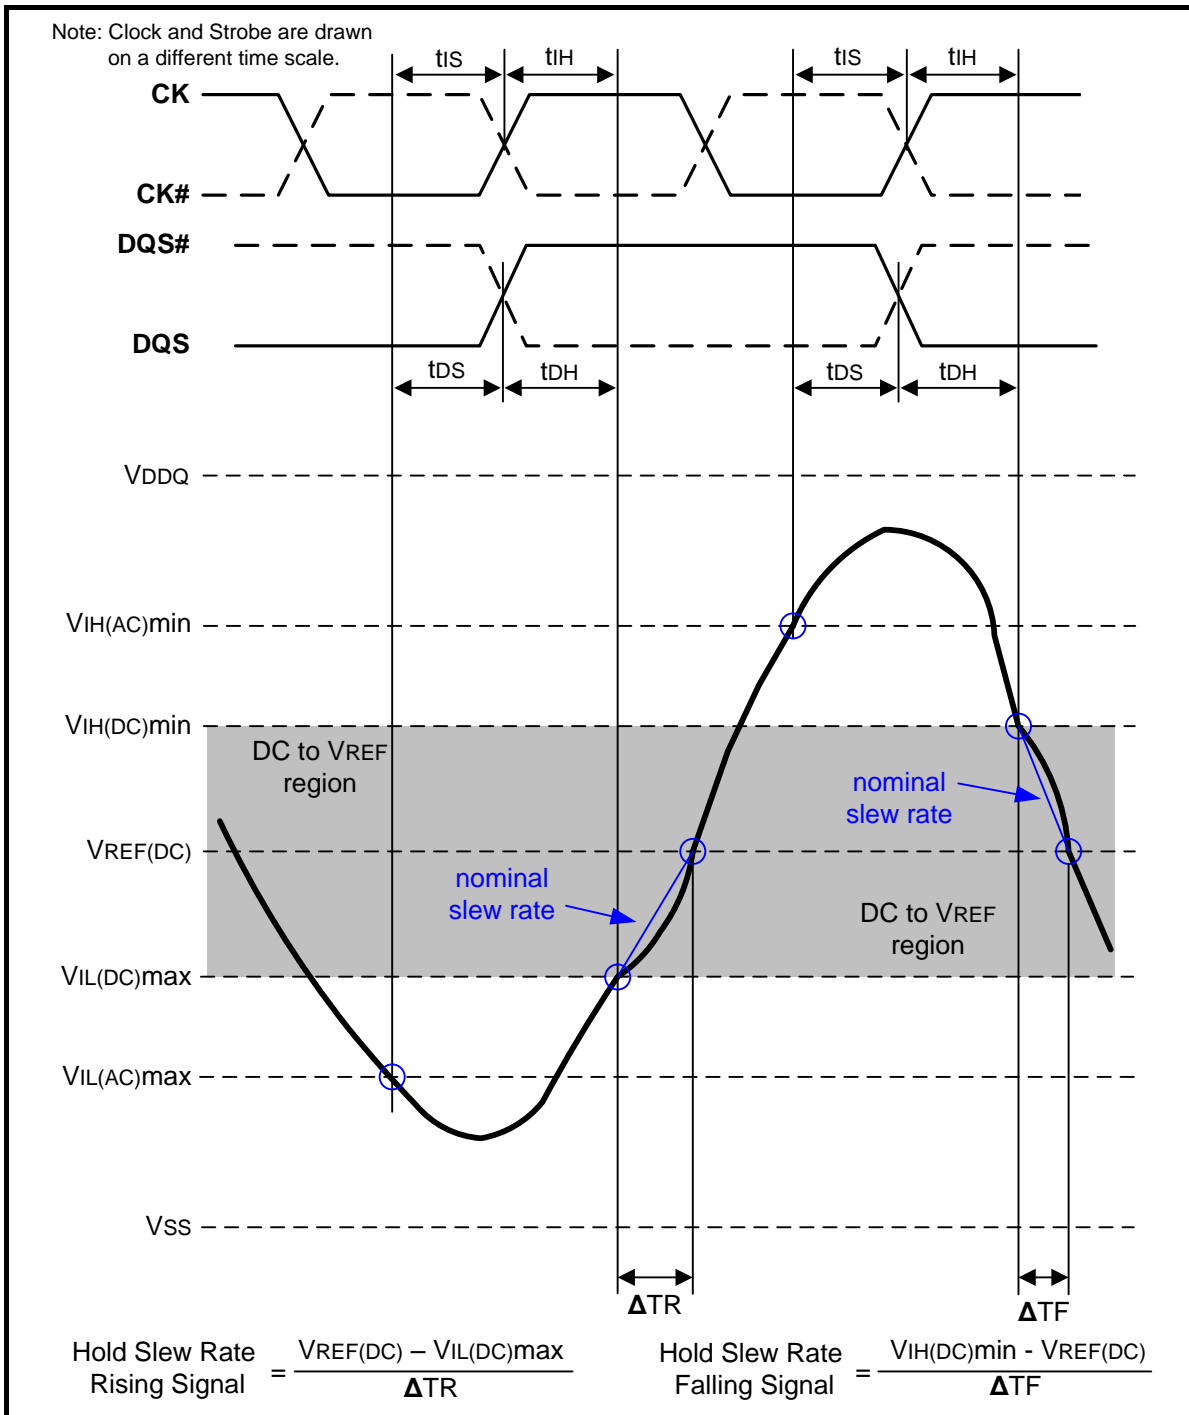
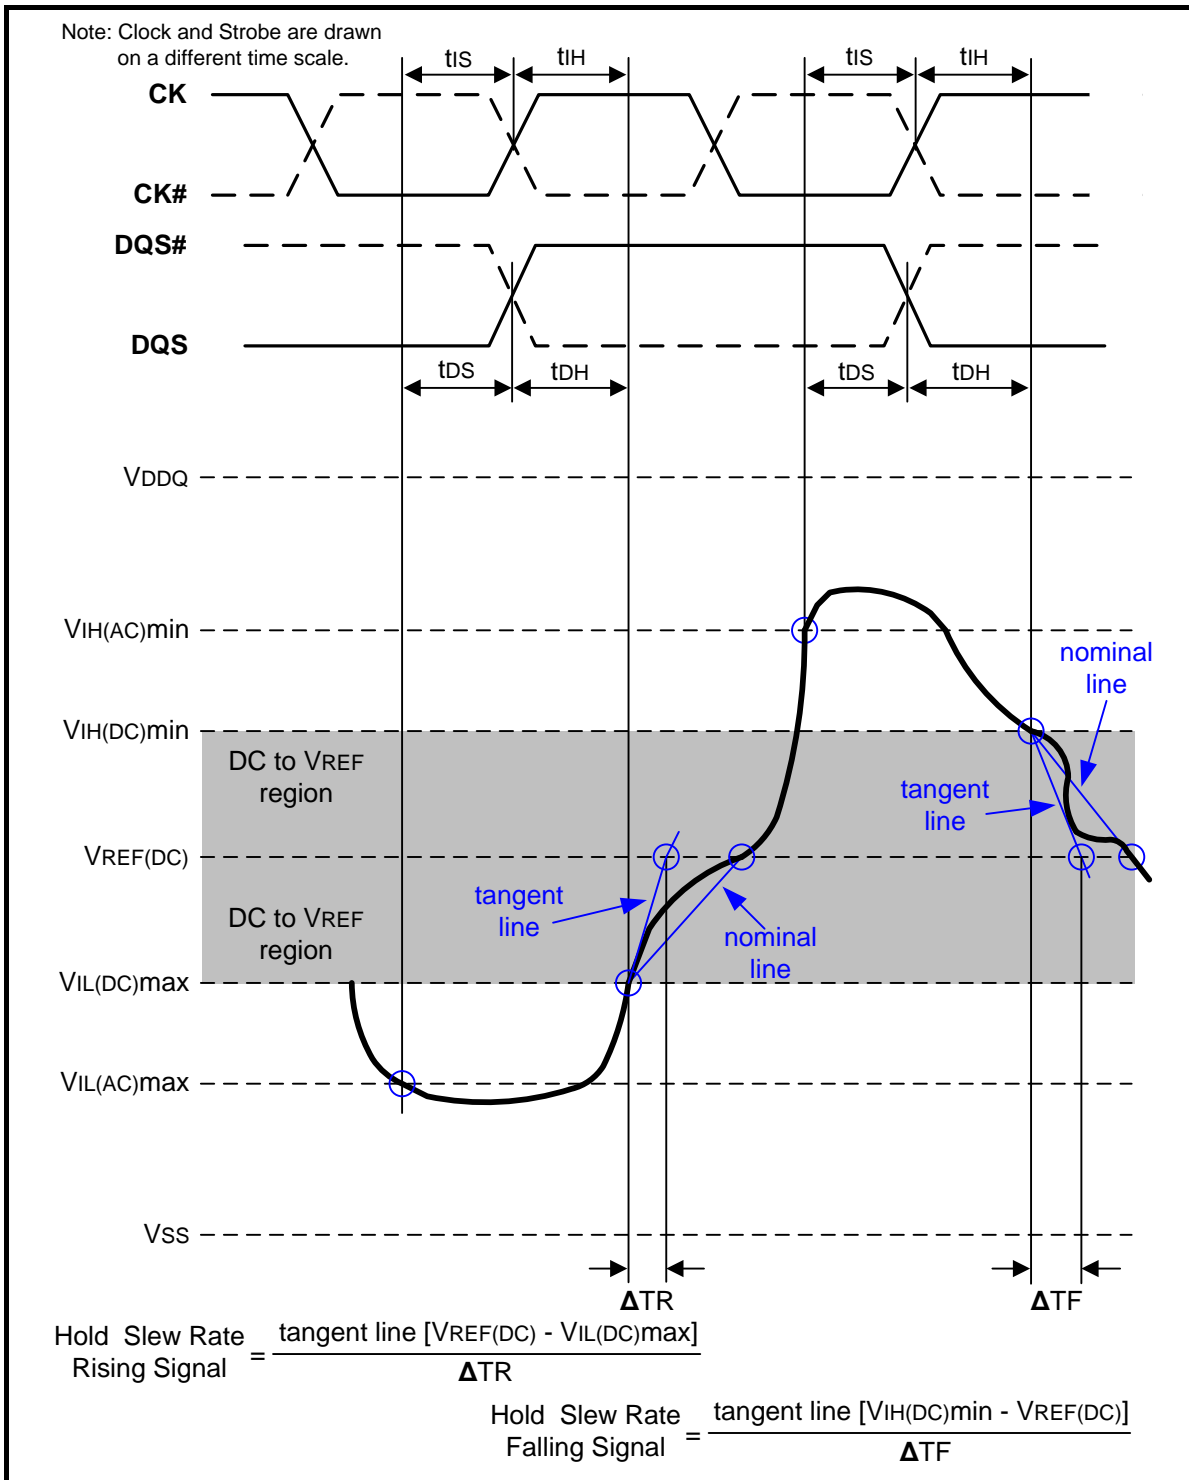

Figure 108 – Illustration of nominal slew rate for hold time tDH (for DQ with respect to strobe) and tIH (for ADD/CMD with respect to clock)
Figure 110 – Illustration of tangent line for for hold time tDH (for DQ with respect to strobe) and tIH (for ADD/CMD with respect to clock)
Hold (t_{IH}) nominal slew rate for a rising signal is defined as the slew rate between the last crossing of $V_{IL(DC)max}$ and the first crossing of $V_{REF(DC)}$. Hold (t_{IH}) nominal slew rate for a falling signal is defined as the slew rate between the last crossing of $V_{IH(DC)min}$ and the first crossing of $V_{REF(DC)}$. If the actual signal is always later than the nominal slew rate line between shaded 'DC to VREF(DC) region', use nominal slew rate for derating value (see Figure 108). If the actual signal is earlier than the nominal slew rate line anywhere between shaded 'DC to VREF(DC) region', the slew rate of a tangent line to the actual signal from the DC level to $V_{REF(DC)}$ level is used for derating value (see Figure 110).
Hold (tDH) nominal slew rate for a rising signal is defined as the slew rate between the last crossing of VIL(DC)max and the first crossing of VREF(DC). Hold (tDH) nominal slew rate for a falling signal is defined as the slew rate between the last crossing of VIH(DC)min and the first crossing of VREF(DC) (see Figure 108). If the actual signal is always later than the nominal slew rate line between shaded 'DC level to VREF(DC) region', use nominal slew rate for derating value. If the actual signal is earlier than the nominal slew rate line anywhere between shaded 'DC to VREF(DC) region', the slew rate of a tangent line to the actual signal from the DC level to VREF(DC) level is used for derating value (see Figure 110).